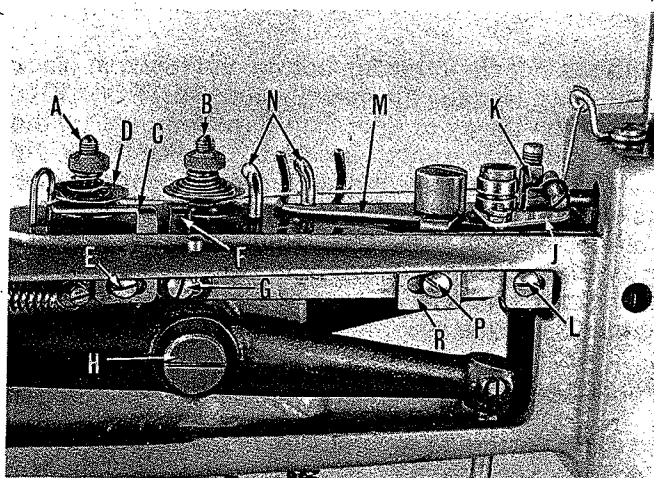
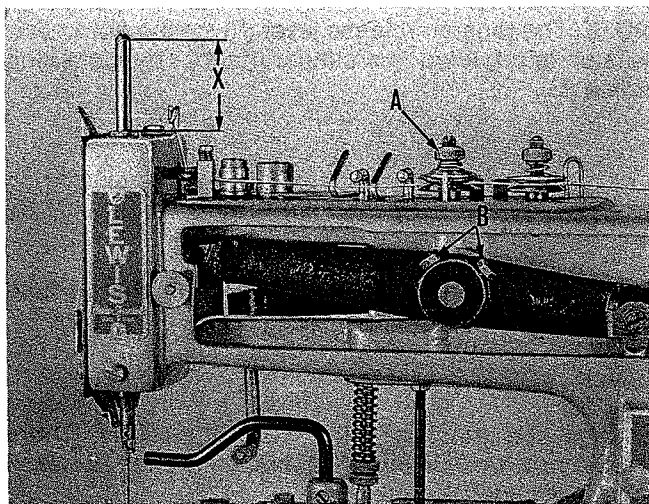

Fig. 28
Fig. 29
The main thread tension (A, Fig. 28) located behind the automatic tension (B) determines how tight the button is sewn. The amount of tension applied to the thread will vary relative to the type of thread, material and the thickness of the button used. Normally, only a light tension is required.
Thread the machine according to the Threading Diagram. Engage the machine into RUN POSITION and rotate the pulley two complete revolutions in operating direction. The tension release lever (C, Fig. 28) should be located as close as possible to the tension discs (D) of the main tension assembly (A) without making contact.
The thread nipper (J, Fig. 28) should pinch and hold the thread tight while it is being cut.
At the end of the stitching cycle, the thread pull-off lever (M, Fig. 28) should pull enough additional thread from the spool to form the first stitch of the next cycle.
Engage the machine into RUN POSITION and pull the thread taut against the thread guides (N, Fig. 28). The pull-off lever (M) should not contact the thread. Turn power "ON" and sew several buttons on scrap material. The pull-off lever is set correctly when a length of thread $\frac{1}{4}$ inch (6.3 mm) to $\frac{3}{8}$ inch (9.5 mm) remains on the underside of the fabric at the right hole of a two hole button; or the right rear hole of a four hole button.
Turn the tension nut (A, Fig. 29) down four or five turns. The automatic tension should release the thread when the needle bar, on its upstroke, has risen so that the lower edge of the beveled top is DIMENSION "X" (Fig. 29) above the upper needle bar bushing. DIMENSION "X" is determined by the length of the needle used as follows:
Rotate the pulley in operating direction so that the needle bar has risen to correspond to the proper DIMENSION "X". Loosen the two hexagonal head screws (B, Fig. 29) in the needle lever hub and rotate the shaft (H, Fig. 28) until the upper tension disc begins to rise. Tighten screws (B, Fig. 29).
NOTE: This is an extremely important adjustment and should be re-checked. If large loops exist on the underside of the fabric apply more tension by turning nut (A, Fig. 29) down.